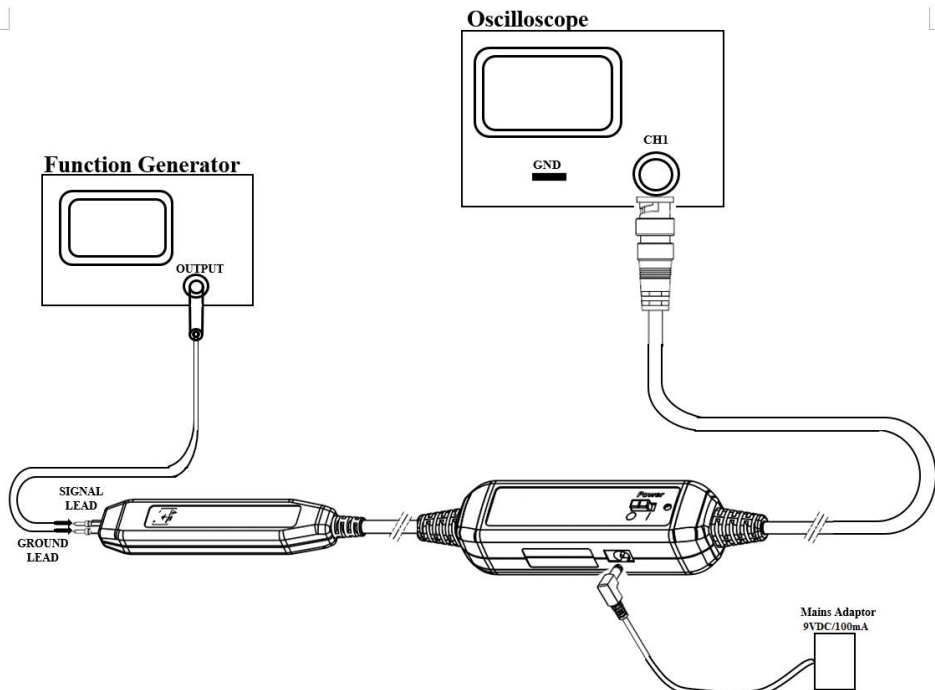

Fig. 8
- F-1. Connect the probe as shown in Fig. 8.